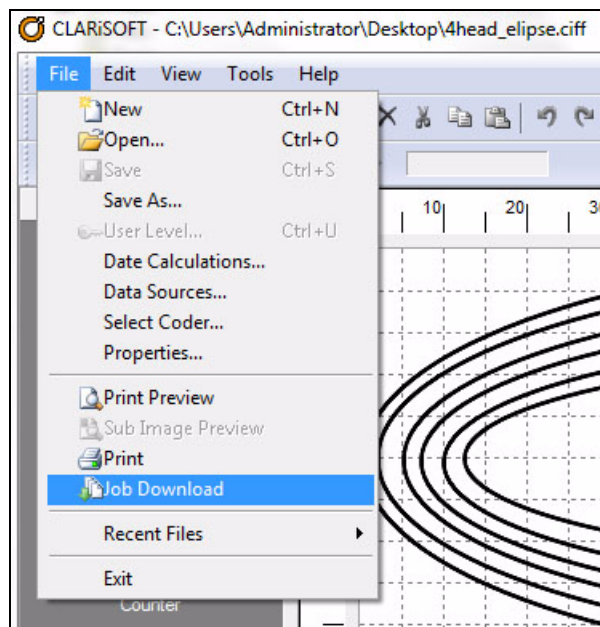
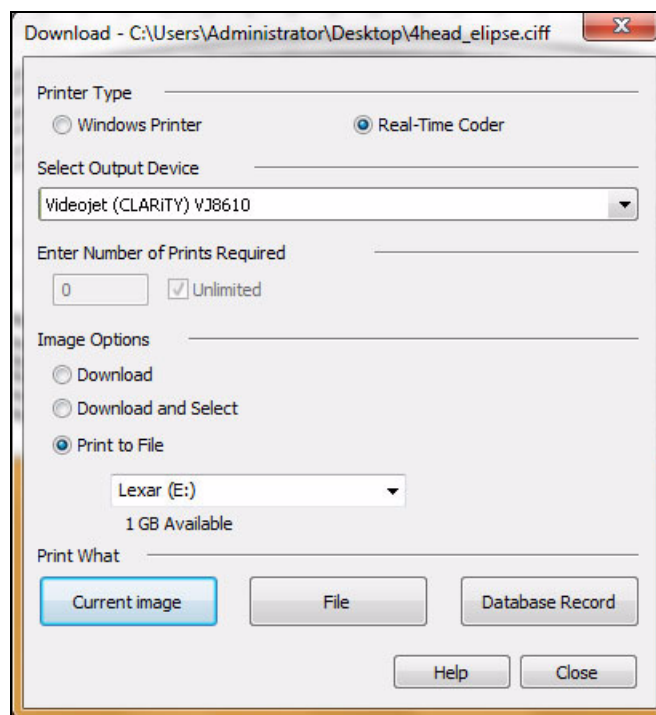

Figure 5-25: Job Download Command
Figure 5-26: Job Download Command
- 2 On the *File* menu, click *Job Download* (see Figure 5-25). The *Download* window appears (see Figure 5-26).
- 3 Ensure that the *Real-Time Coder* is selected (see Figure 5-26).